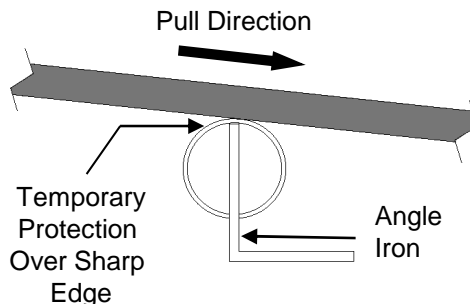

Figure 12
13.6.1 Install some type of hard and rounded temporary protective covering (e.g.: Split Innerduct, a Roller Wheel, a temporary Waterfall or Bridge product, etc.) over all sharp points if there is any chance the tube cable will come in contact with them. **See Fig. 12.**